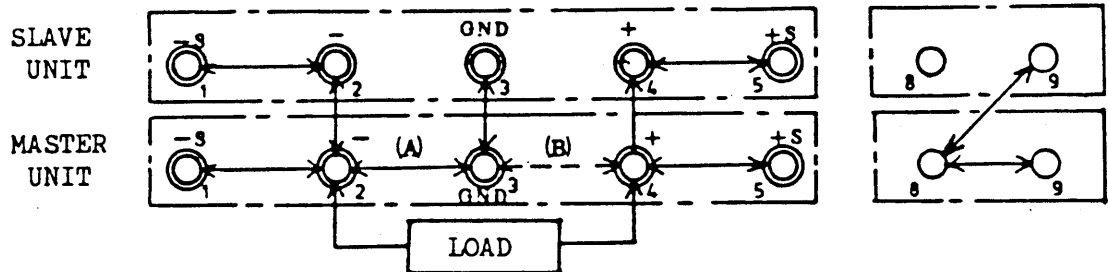

Figure 3-8. One-control parallel operation
- (1) Connect the rear-panel terminals of the master unit (voltage controlling unit) and slave unit (voltage controlled unit) as shown in Figure 3-8.
- (2) Connect the load to the output terminal of on the rear terminals of the master unit. Turn-ON the power switch and output switch in the due order of master unit and slave unit; turn-OFF the switches in the due order of slave unit and master unit, always.